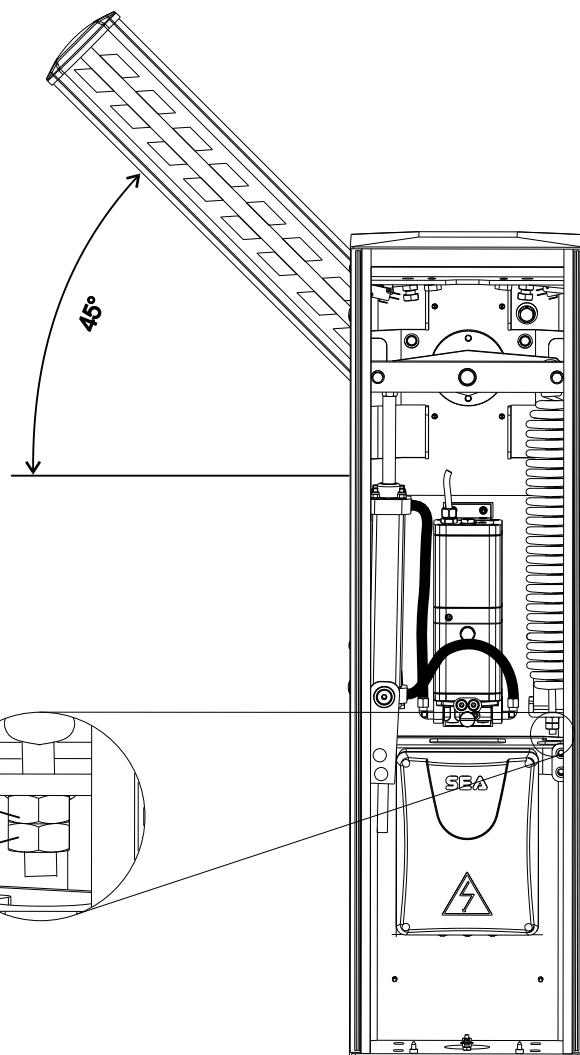

Fig. 9
- Release the beam with manual release, so that it is free to be opened and closed manually (Fig.9).
- Loosen or tighten the spring stretching nut until the spring counterbalances the weight of the 45° beam (Fig. 9). The best balancing position is obtained when the beam reaches the position shown in Fig. 9.